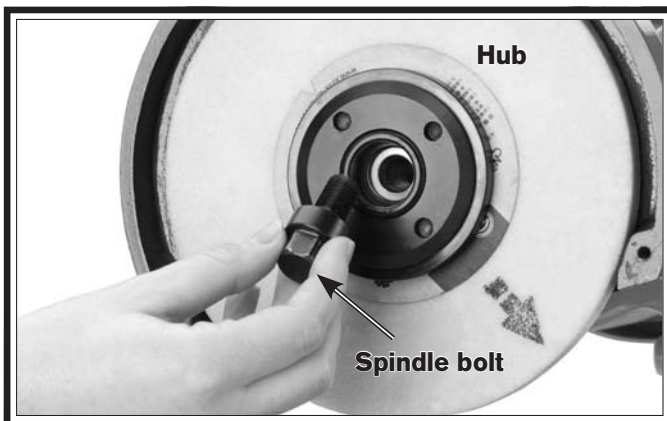

Figure 24. Spindle bolt removal.
6. Remove the spindle bolt (**Figure 24**).